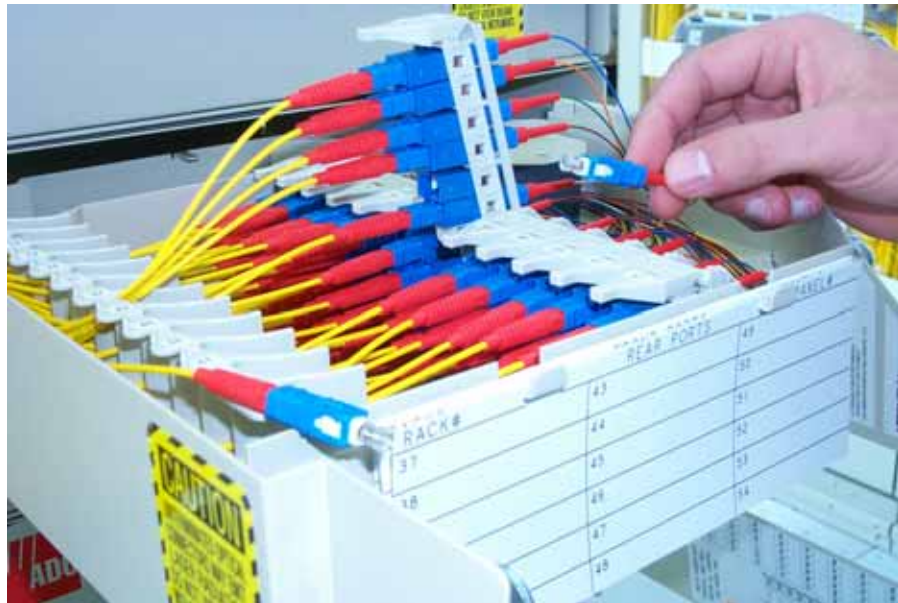

Figure 83. Removing Rear Side Connectors
5. Remove each rear side connector from the adapter pack adapter and immediately cover with a dust cap as shown in Figure 83. Label and then set aside.